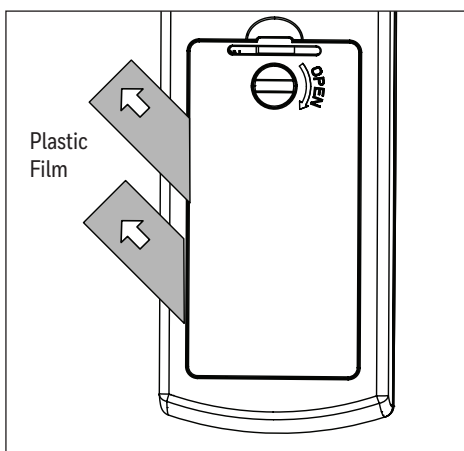

Figure 6.1
1. Batteries were preinstalled in the battery compartment of the remote in remote pack. Pull the plastic film in the direction of the arrow to remove which will activate the batteries (Figure 6.1).
Remote does not work.	<ol style="list-style-type: none"> 1. Power surge may have cleared the memory and remote needs to be resynced to the receiver. Syncing instructions: Turn off the power at the breaker box for at least 10 seconds and then turn the power back on. Within 30 seconds, press and hold the "LEARN" button (Figure 6.1) on the back of the remote for 5 seconds. The fan will turn on at high speed and light will blink twice and stay on, signaling a successful synchronization. 2. Insert new CR2032 batteries in battery compartment of the wall control. 3. If there are several remote fans in proximity, turn the power off to those fans and re-sync the fan.